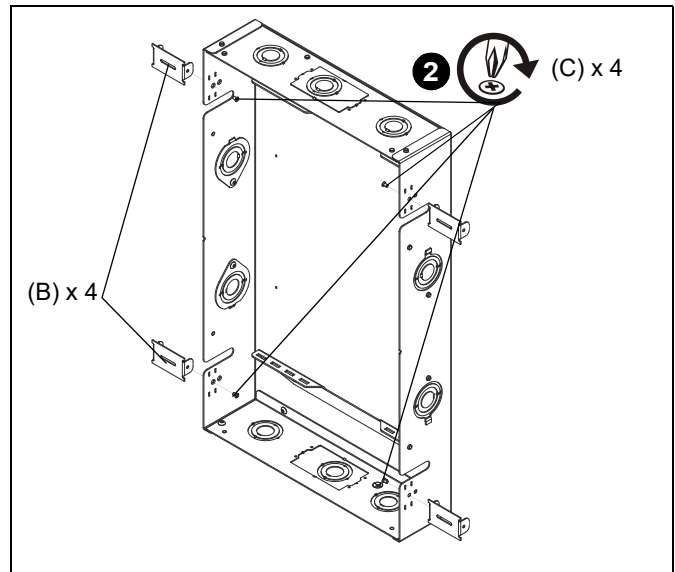

Figure 2
2. Use four #6 x 1/4" Phillips flathead screws (C) to secure four stud tabs (B) to first in-wall box (A) to be installed to studs. (See Figure 2)